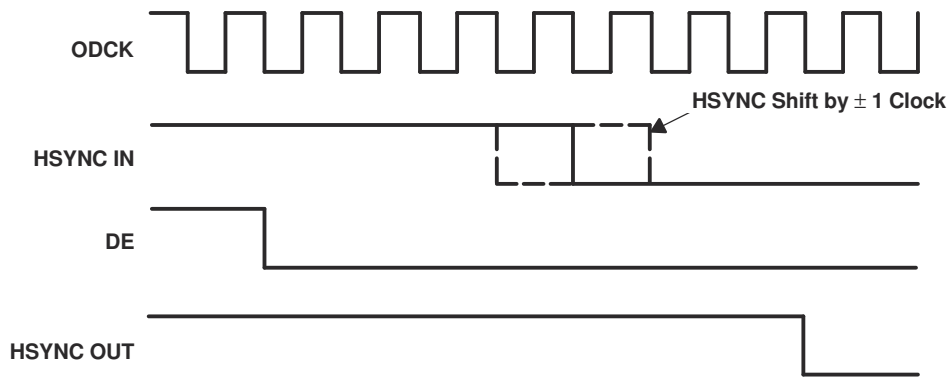

Figure 7-3. HSYNC Regeneration Timing Diagram
The TFP401A-Q1 integrates HSYNC regeneration circuitry that provides a seamless interface to these noncompliant transmitters. The regeneration circuitry always fixes the position of the data enable (DE) signal in relation to data, irrespective of the location of HSYNC. The TFP401A-Q1 receiver uses the DE and clock signals to recreate stable vertical and horizontal sync signals. The circuit filters the HSYNC output of the receiver and shifts HSYNC to the nearest eighth bit boundary, producing a stable output with respect to the data, as shown in Figure 7-3. This ensures accurate data synchronization at the input of the display timing controller.